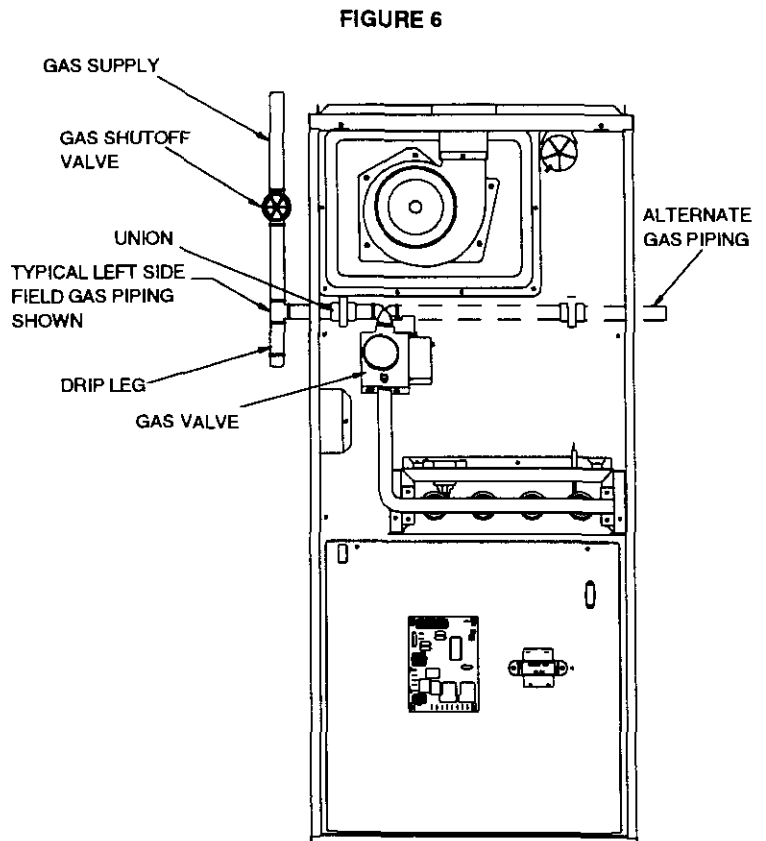

FIGURE 6
5. Install A.G.A. listed manual shut-off valve in the supply gas line external to and immediately upstream of the furnace. See Figure 6.